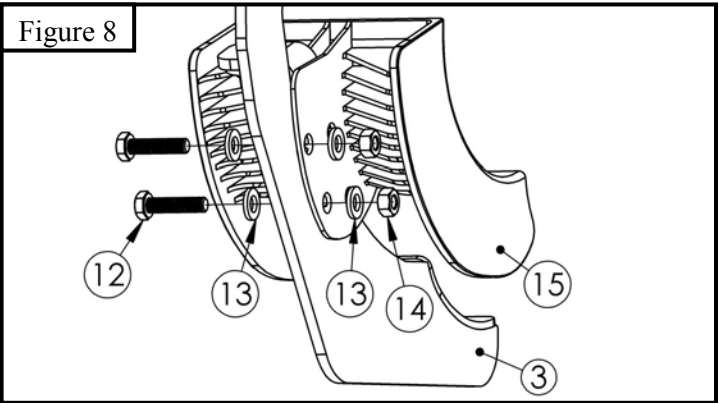

Figure 8
4. Locate (1) plastic bracket cover (Item 15) and loosely secure it to the (4) brackets using the provided hardware: (2) M6 hex head cap screws, (4) M6 flat washers, and (2) M6 nylon nuts. Repeat for every bracket. See **Figure 8**.